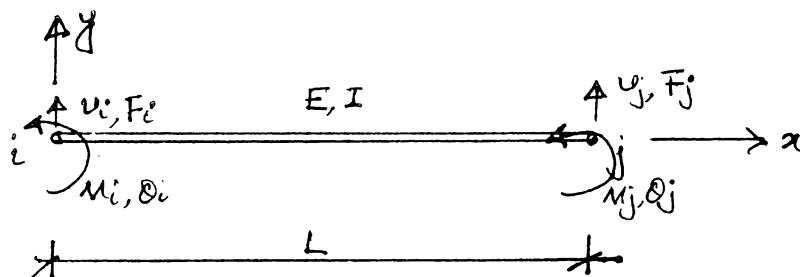

Fig. 2
5. (a) Summarize the basic procedural steps that are followed in FEM for analyzing a structure. (6)
- (b) Approximate the area of a circle by dividing it into a number of triangles. In this process show that $S_N = \pi R^2$ when $N \rightarrow \infty$. Where R = radius of the circle, N = number of triangles, S_N = area of the circle. (12)
6. (a) Discuss with sketches four major discontinuities that may exist in a real structure and the necessity of considering those in discretizing a structure. (12)
- (c) What are the fundamental assumptions in analyzing a structure as a linear elastic problem? (4)
7. (a) Explain the term "shape functions". Why polynomial terms are preferred for shape function? (12)
8. (a) Introduce reasonable shape functions for a two noded beam element (Fig. 2) and derive the element stiffness matrix. (11 1/3)
2. (a) Introduce reasonable shape functions for a two noded beam element (Figure 2) and derive the element stiffness matrix (k) . In this process also consider axial stiffness of a bar element and derive the stiffness matrix of a 2D general beam element. (15) ✓